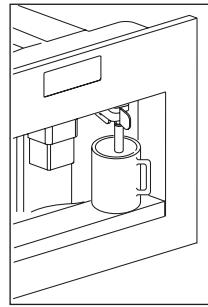

Fig. 12
- ▶ Place a cup under the hot water spout (Fig. 12). (If the hot water spout is not inserted, the appliance displays "INSERT WATER SPOUT".)